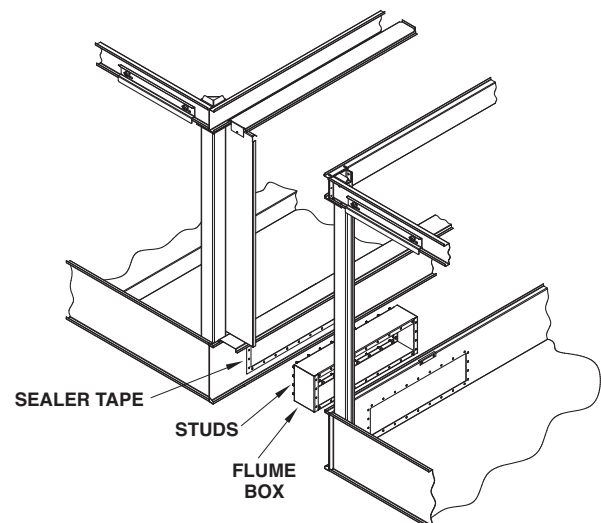

Figure 8 - Equalizer Flume Assembly, 17' & 24' Wide Models
2. Mating flanges which will make contact with others should be cleaned to remove dirt, grease and moisture. Apply a layer of sealer tape on one side panel centered over the flume box holes as shown in Figure 8. Remove paper backing strip from the sealer tape.
6. Align the bolt holes in the equalizer flume and equalizer opening with drift pins while drawing the second basin section against the first as shown in Figure 8.
9. Place the drip channel over the adjoining pan section flanges. Secure by installing 5/16" self-tapping screws through the retaining clips into the side panel. For stainless steel construction, secure by installing 1/4" stainless steel bolts through the retaining clips into brass rivnuts secured in the side panel. (See figures 8 & 9.)